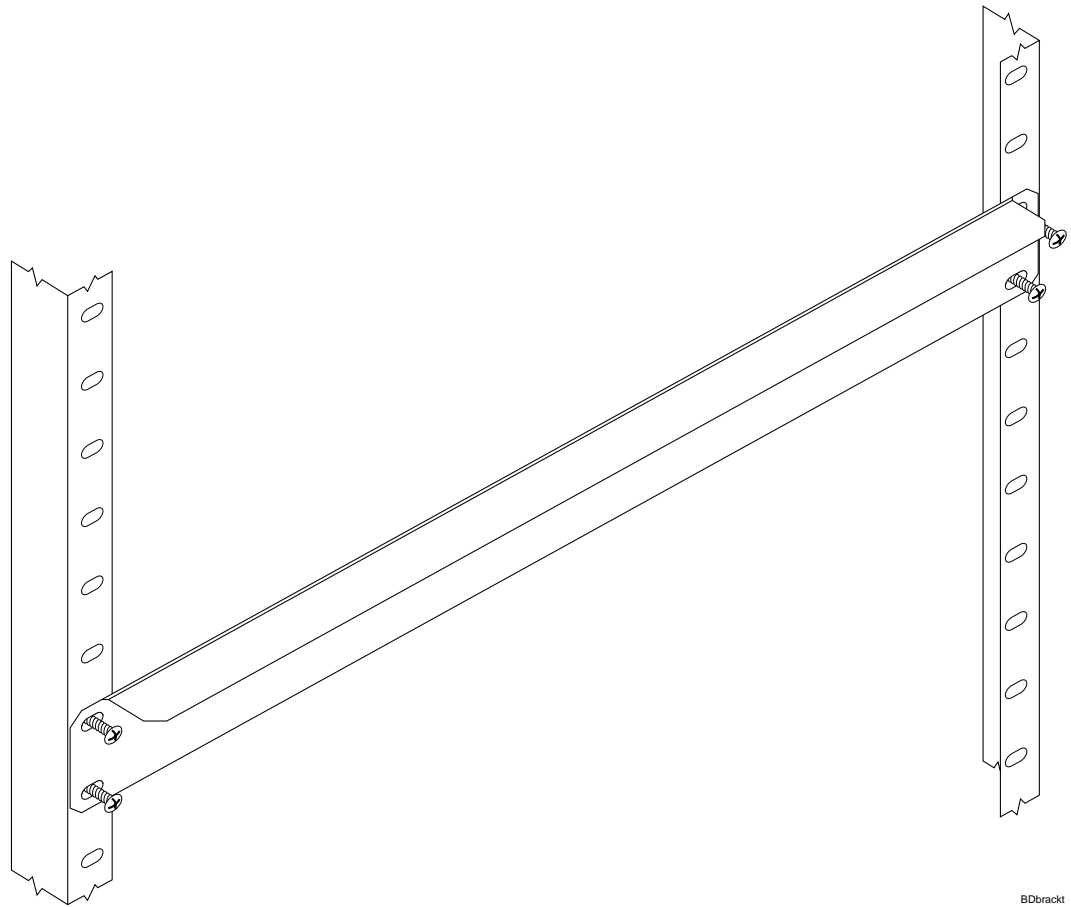

Figure 2-1: Rack-mount helper bracket
- 1 If you are installing a Summit7i switch, mount the helper bracket in the rack using four appropriate rack-mounting screws (not provided), as shown in Figure 2-1.